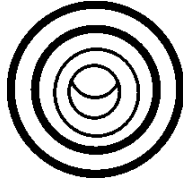

Figure 44. Pre-Heat Lamp
8. Verify that the **pre-heat lamp** (Figure 44) is lit. The lamp will turn off when the engine has started. (manual mode only).